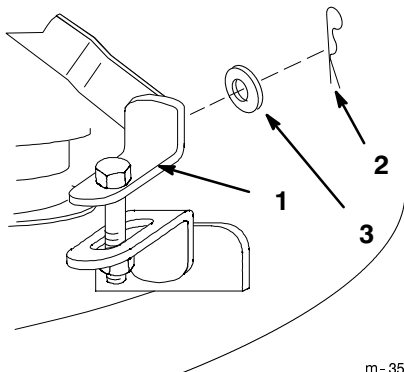

Figure 15
4. Remove hairpin cotter (1-7/16 in.) and washer (3/8 in.) from front adjustable link and remove from front lift arm (Fig. 15).